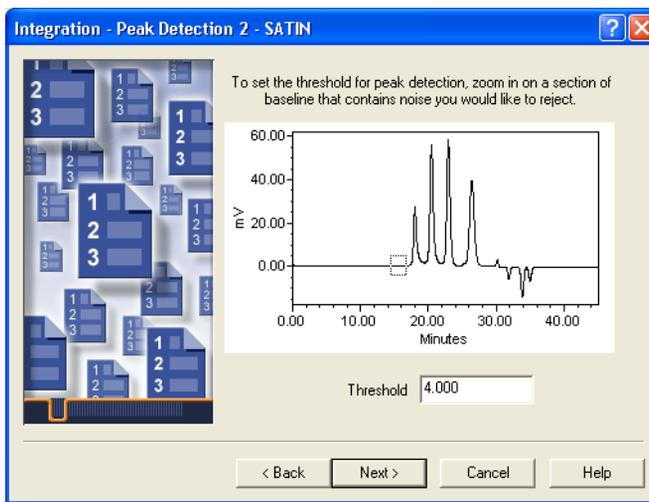

Figure 2-7 Setting the Peak Threshold
13. When you are satisfied with the integration region, click **Next** to go to the Integration–Peak Detection 2 page (Figure 2-7). This page allows you to set the threshold for peak detection.